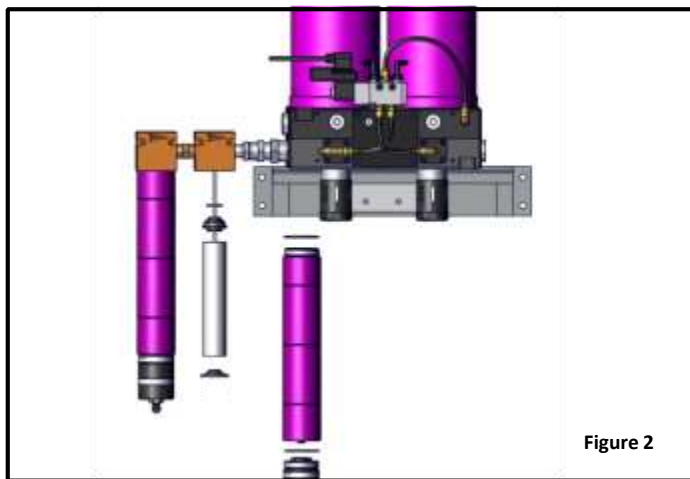

Figure 2
5. Remove bottom baffle, filter element, top adaptor, and O-ring. *Figure 2*